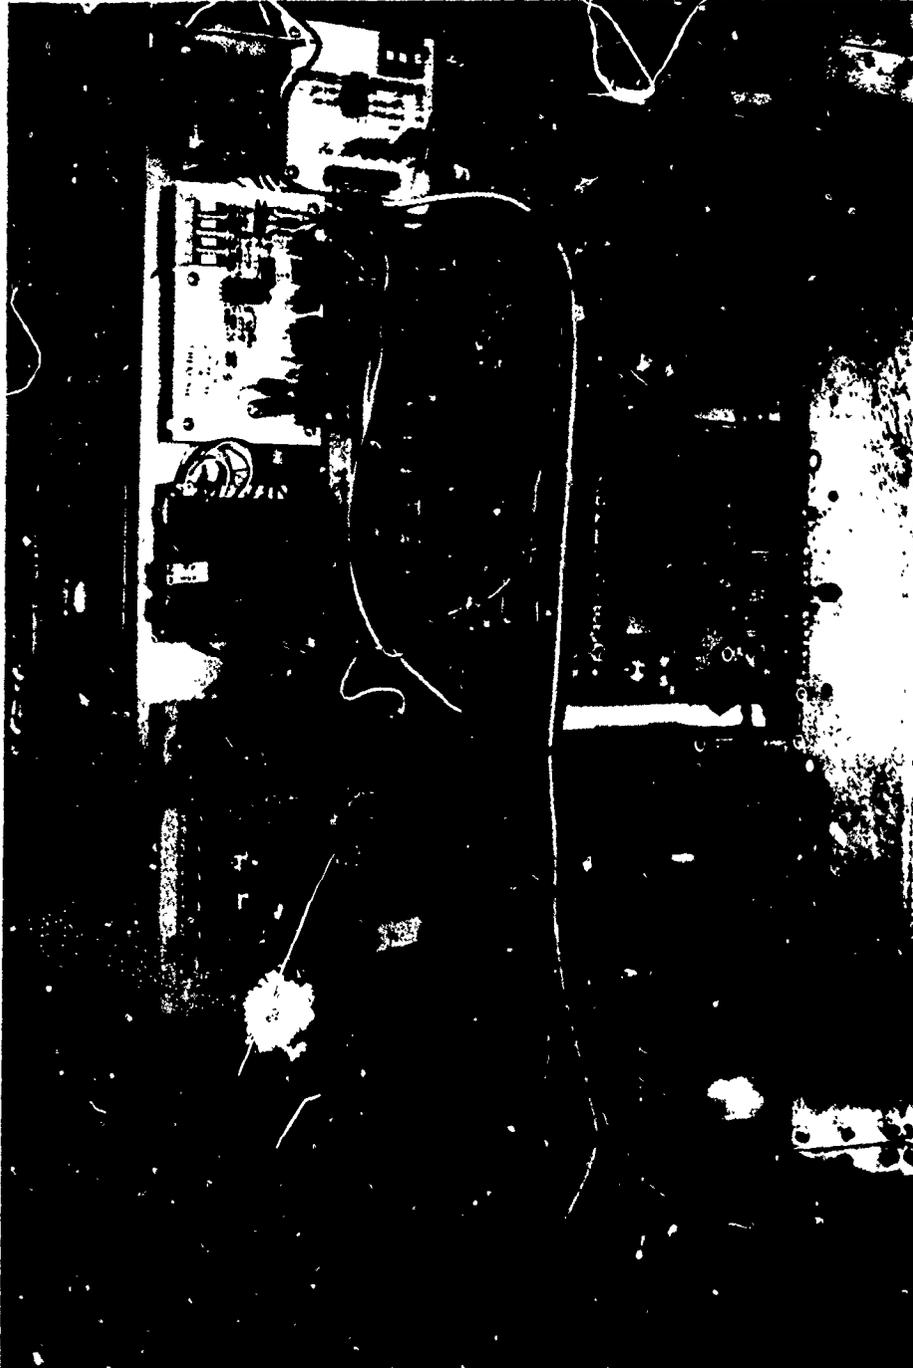

Figure 39. Actuator Driver and Signal Conditioning Circuits.
19. Actuator Driver & Signal Conditioning Circuits (Figure 39)
This cabinet houses circuits which interface between the Radio Frequency data receiver units and the driving actuator circuit (Figure 39) / Other actuators/solenoid valves on the vehicle.